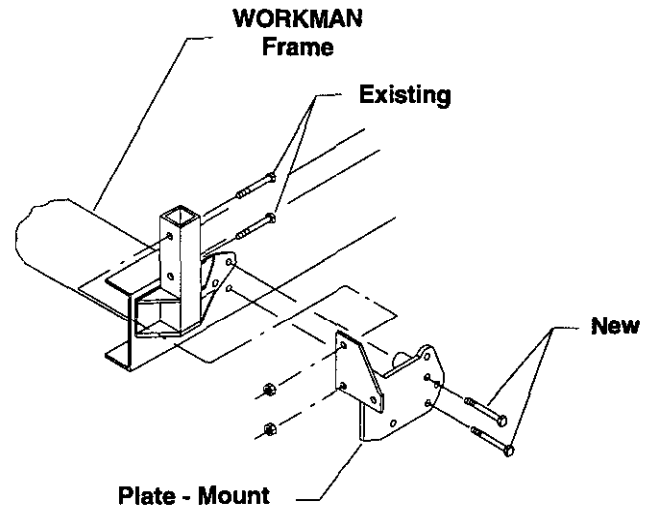

Figure 3
ATTACHING CORE HARVESTER TO TORO WORKMAN (Fig. 3 - 8)
6. Attach the Plate Mount to the Toro Workman as shown in Fig. 3 using 1/2 x 4" bolts and nuts. Secure all fasteners. The Plate Mount is designed to remain on the Toro Workman at all times. Use two existing bolts and two new longer bolts. The Plate Mount attaches to the ROPS post in two locations. Secure all fasteners.